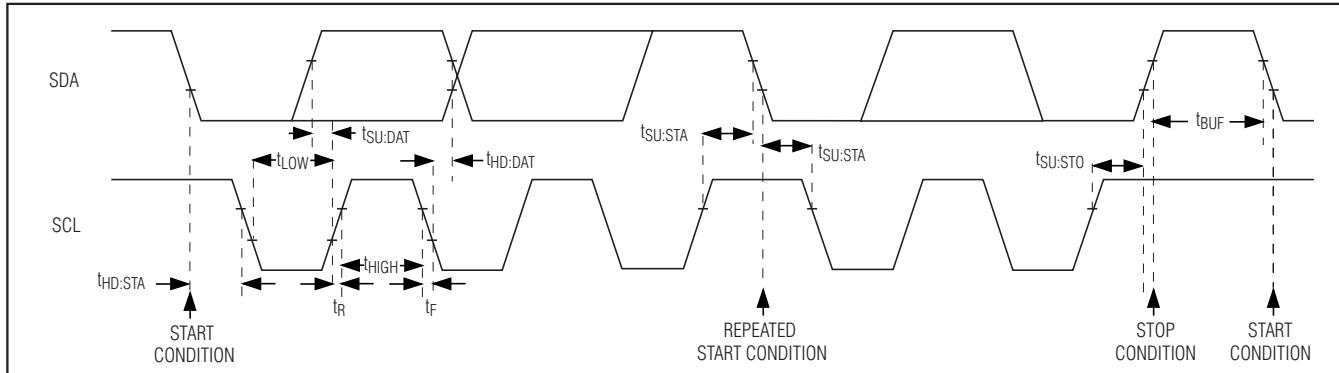

Figure 6. 2-Wire Interface Timing Diagram
The MAX9875 features an I2C/SMBusTM-compatible, 2-wire serial interface consisting of a serial-data line (SDA) and a serial-clock line (SCL). SDA and SCL facilitate communication between the MAX9875 and the master at clock rates up to 400kHz. Figure 6 shows the 2-wire interface timing diagram. The master generates SCL and initiates data transfer on the bus. The master device writes data to the MAX9875 by transmitting the proper slave address followed by the register address and then the data word. Each transmit sequence is framed by a START (S) or REPEATED START (Sr) condition and a STOP (P) condition. Each word transmitted to the MAX9875 is 8 bits long and is followed by an acknowledge clock pulse. A master reading data from the MAX9875 transmits the proper slave address followed by a series of nine SCL pulses. The MAX9875 transmits data on SDA in sync with the master-generated SCL pulses. The master acknowledges receipt of each byte of data. Each read sequence is framed by a START or REPEATED START condition, a not acknowledge, and a STOP condition. SDA operates as both an input and an open-drain output. A pullup resistor, typically greater than 500Ω, is required on SDA. SCL operates only as an input. A pullup resistor, typically greater